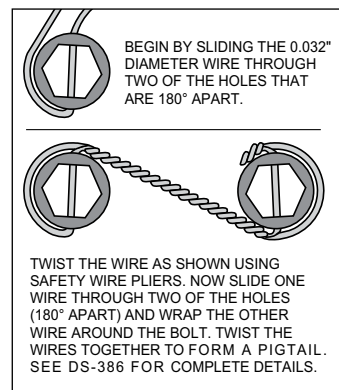

Figure 4
STEP 4 Orient the rotor (8) and the hat (9) as shown in Figure 1 and Photo 3. Attach rotor to hat using bolts (10) and washers (11). Apply red *Loctite*® 271 to the bolt threads and torque to value shown in Figure 1 using a criss-cross pattern. For an added measure of security, the bolts may be safety wired using standard 0.032 inch diameter stainless steel safety wire as shown in Figure 4. Refer to Wilwood's data sheet DS-386 (available at www.wilwood.com/Pdf/DataSheets/ds386.pdf) for complete safety wire installation instructions.